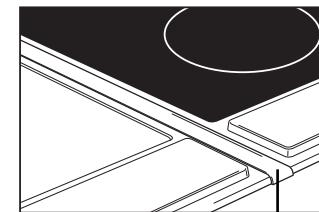

fig. 17
- Two or more appliances can be built in together into a single recess and coupled with the "DOKS" CONNECTING STRIP (fig. 17).